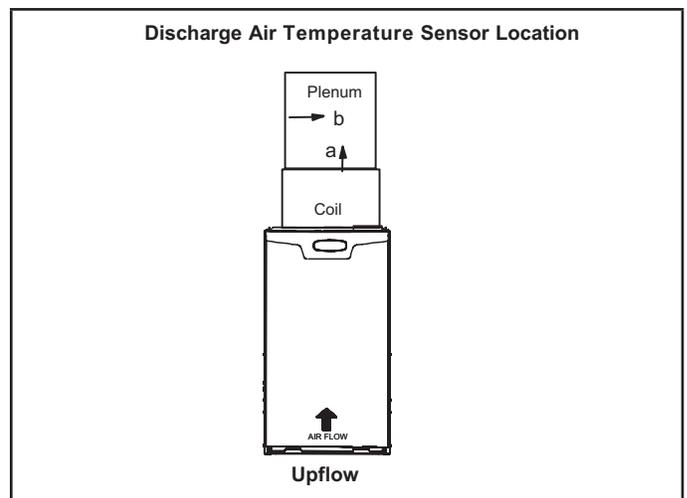

FIGURE 2
- 2 - See tables 1, 2, 3 and figures 2, 3 and 4 for SLP99UHV discharge air sensor location.